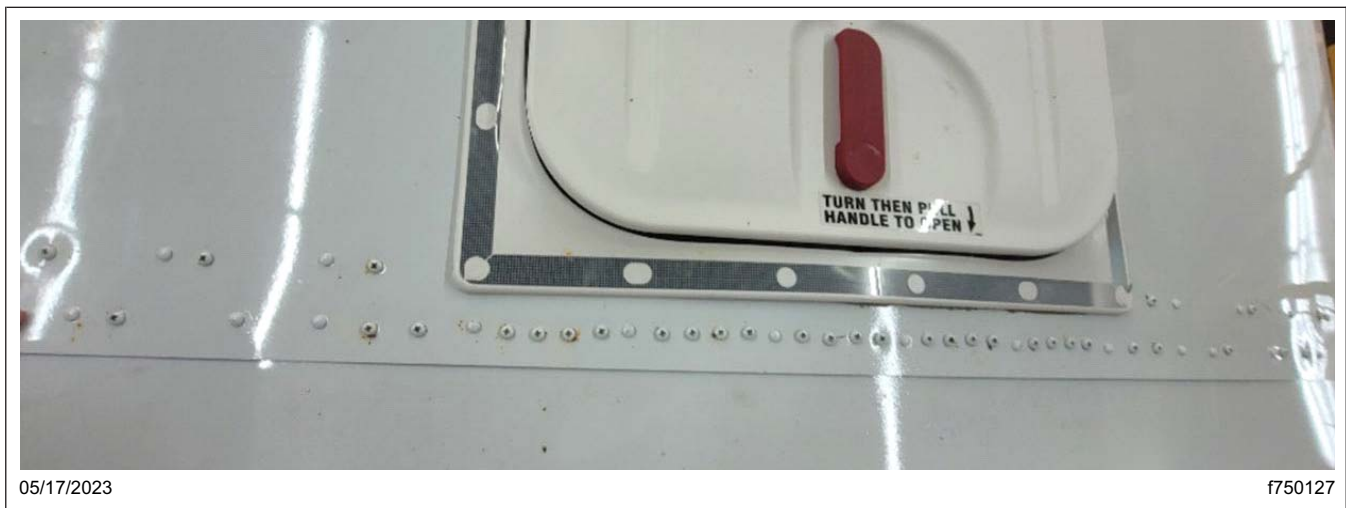

Fig. 23, Additional Screws Installed
- 35. Install a screw in each pilot hole, as shown in Fig. 23. See Table 4 for the number of screws to be added per joint.